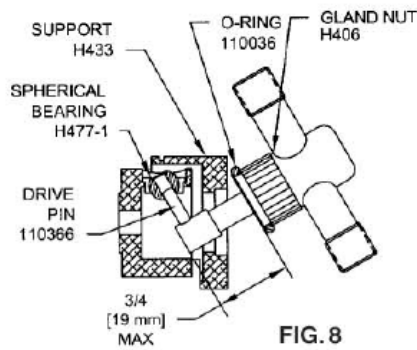
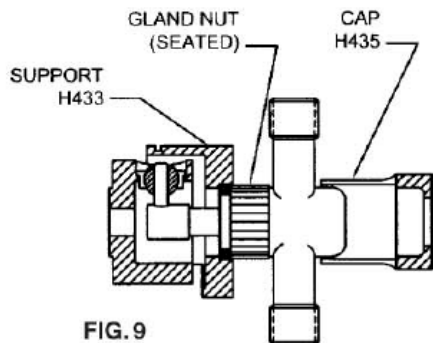

FIG. 8
FIG. 9
**20. REMOVING PISTON/CYLINDER GROUP ASSEMBLY.** (refer, Fig 8.) remove two 110655-20 screws and while holding cylinder ports in place, slip part H435 off of CYLINDERASSEMBLYH422. Tilt the assembly
as shown in **figure 8**. This will permit removal of PISTON DRIVE PIN 110366 from SPHERICAL BEARING H477 **without fully withdrawing piston from liner.**
**22. PISTON/CYLINDER GROUP ASSEMBLY REPLACEMENT.** (refer, figs. 8 & 9) Install "O" RING 110036 over GLAND NUT H406. Note in fig. 8 that PISTON DRIVE PIN 110366 must be guided into SPHERICAL BEARING H477-1 while the piston and cylinder remain assembled. This for the purpose of avoiding assembly damage to the seals. When PIN is in bearing, seat GLAND NUT with "O" RING in SUPPORT H433 as shown in fig. 9. **OPERATE PUMP MANUALLY FOR SEVERAL STROKES BEFORE APPLYING POWER.**